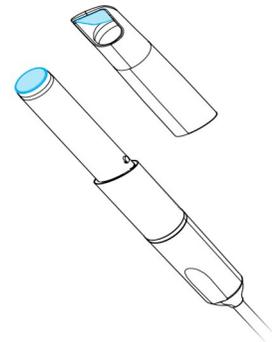

Figure 8: Cleaning the optics of handpiece and sleeve
2. Clean the optics on the handpiece sleeve using a foam tip applicator soaked with alcohol (see *Figure 8: Cleaning the optics of handpiece and sleeve, p. 21*).
3. Clean the optics on the handpiece (without sleeve) using a foam tip applicator soaked with alcohol (see *Figure 8: Cleaning the optics of handpiece and sleeve, p. 21*).